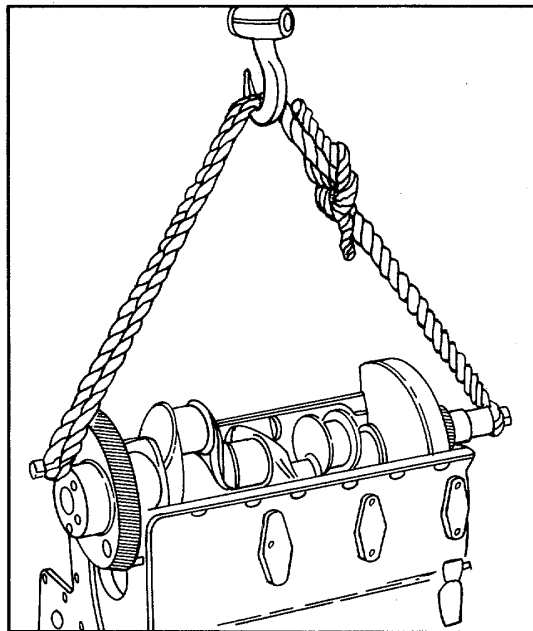

Figure 2. Removing or Installing Crankshaft
19. Remove the crankshaft, including the timing gear (Fig. 2).